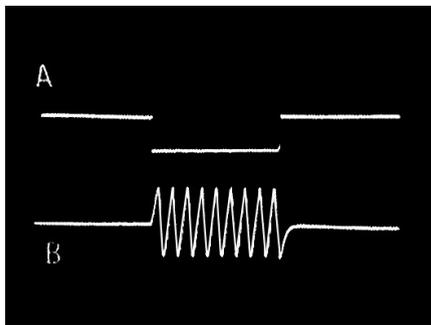
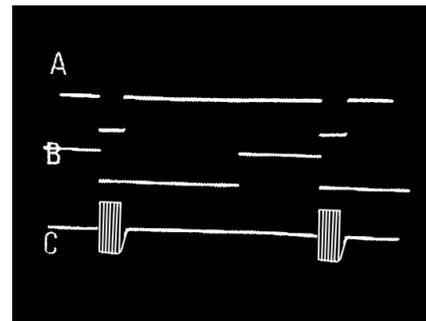

Fig. 21. Coincident pulse waveforms. See text for explanation.
Fig. 22. Coincident pulse waveforms. See text for explanation.
The double beam (two trace oscilloscope) is invaluable for simultaneous display of two events, each time related to the other, and Fig. 21 (A) shows a square pulse (negative going) which has been used to gate a tone burst generator (B). The trace is fast enough to display one pulse so that close examination of time relationship can be made i.e., the tone burst starts its first cycle (positive going) precisely with the leading edge of the gate pulse. However, these two events are also related to another as in Fig. 22 where (A) is the gate pulse again, (B) is a variable width pulse from which the gate pulse was derived in the first place and (C) the tone burst. All three can be examined together but unless you have an expensive multi-beam 'scope this is where photographic records are useful.